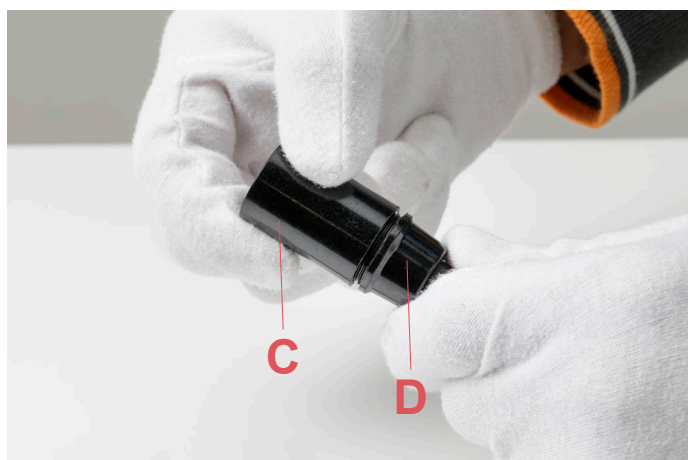

Fig.5
Fasten the sleeve (C) on the support (D).(Fig.5 page 15)